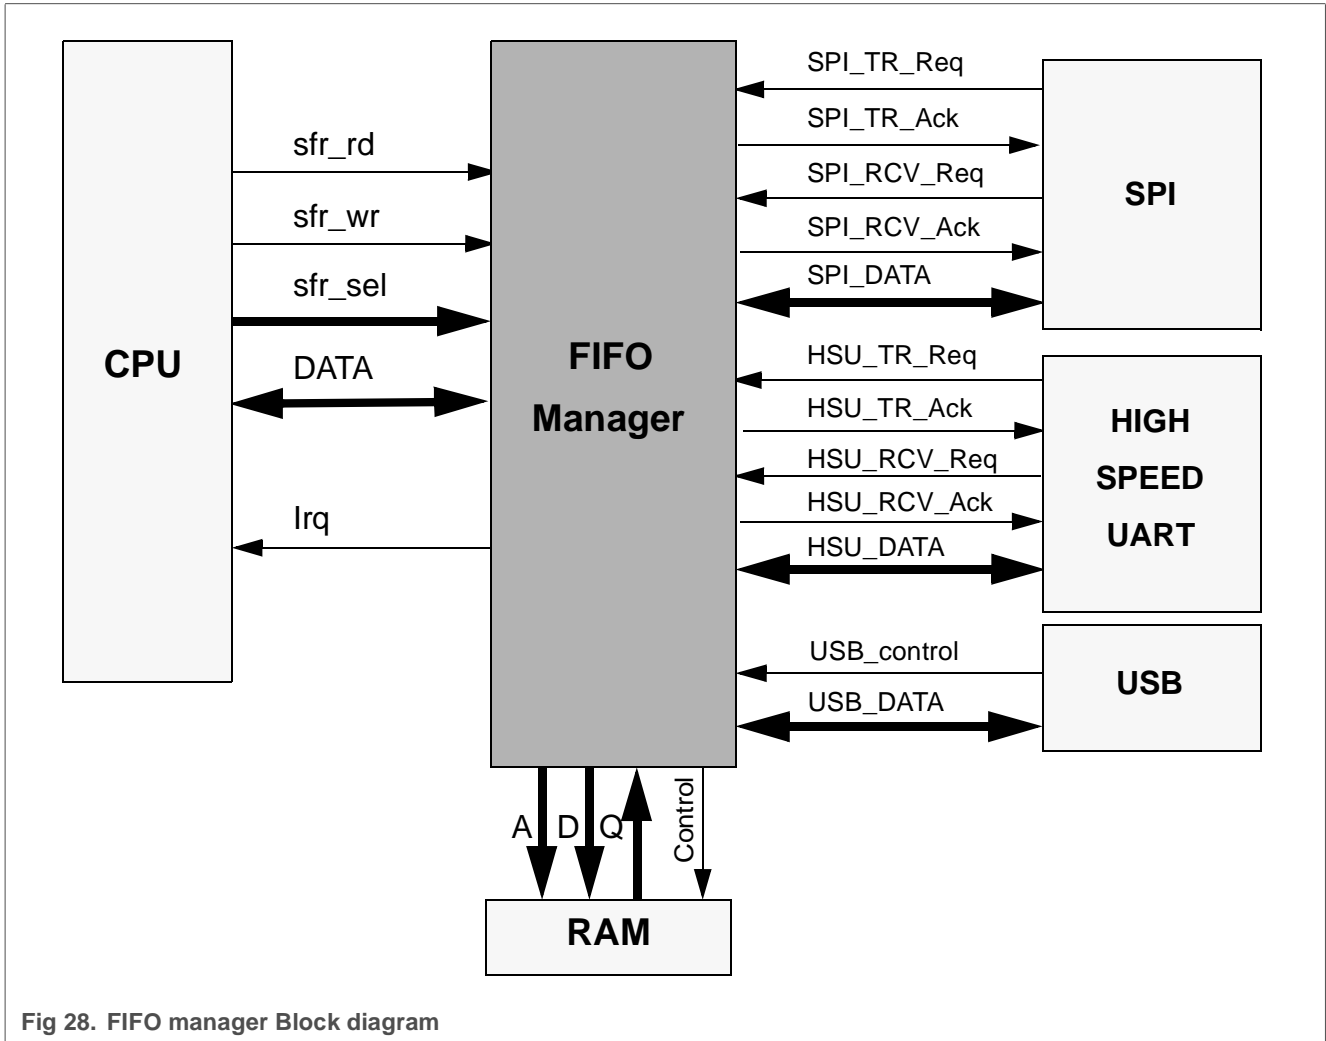

Fig 28. FIFO manager Block diagram
- The following Figure 28 “Registers management Block diagram.” on page 74 describes how is managed the registers repartition between the FIFO manager, the SPI, the high speed UART interfaces or the USB.